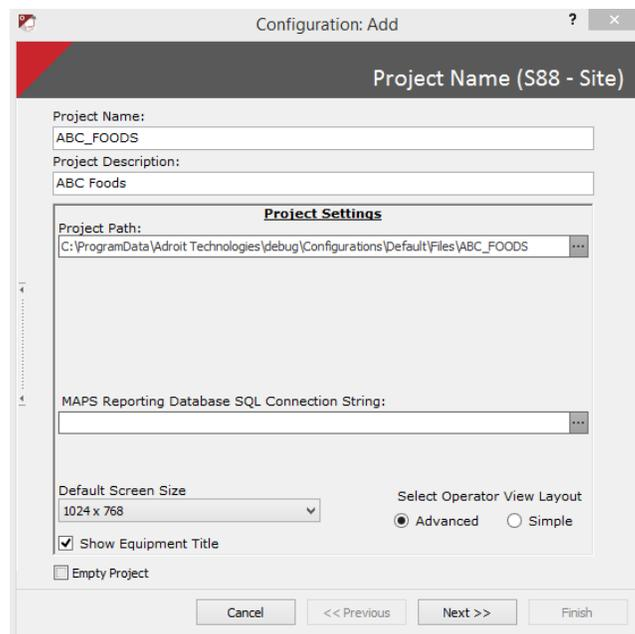

Figure 11 Project Data
1. Enter the following project details. See Figure 11 below.